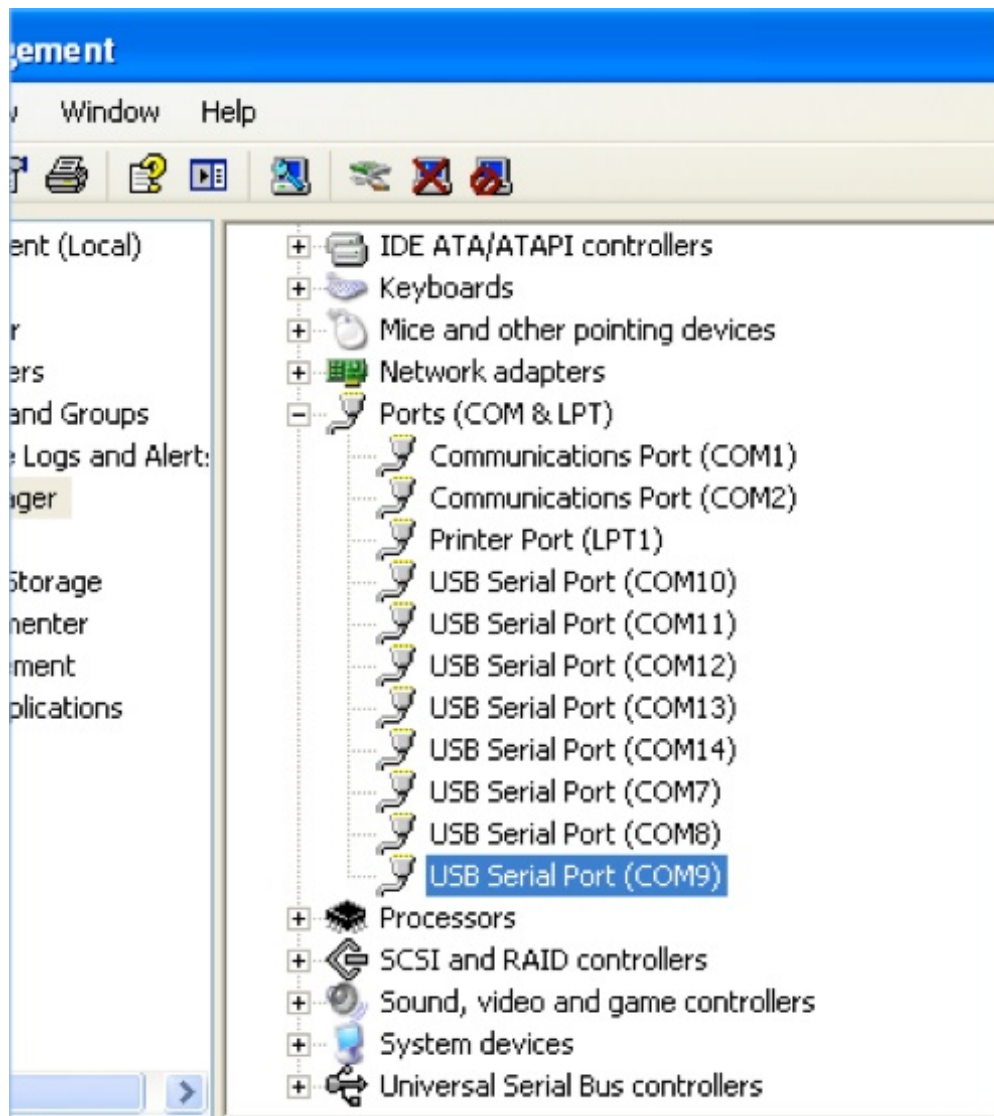

Figure 5: Device Manager (see step 2) Example
3. Using the Device Manager, make sure that the baud rate is set to 115,200 for the API COM ports. Double-click the port and select the "Port Settings" tab. As an example, see Figure 5: